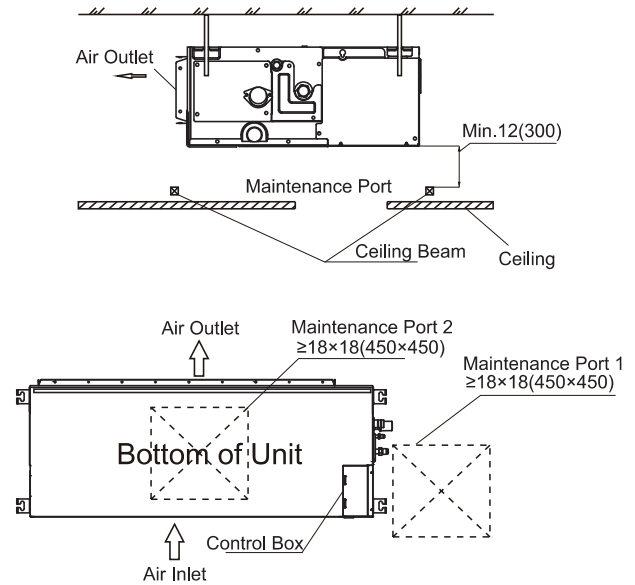

Fig. 3.1.2
- (1) Reserve necessary maintenance port when the ceiling is not detachable.
- (2) The location of the maintenance port should ensures remove electric box cover and internal components are all easy to perform.
- When the height (H) from the ceiling to the bottom plate of the unit is ≥ 12 in.(300 mm), two access holes are required, as shown in Fig. 3.1.2.